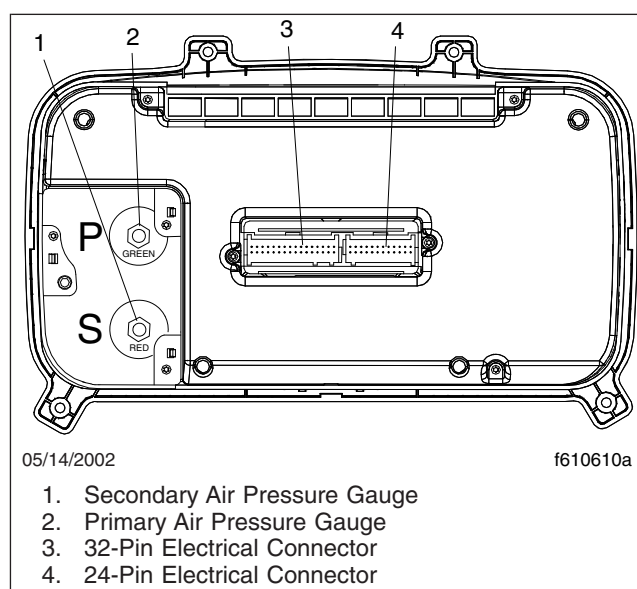

Fig. 3, ICU3S, Rear View
9. Disconnect the two electrical connectors from the back of the ICU3S. See **Fig. 3**.